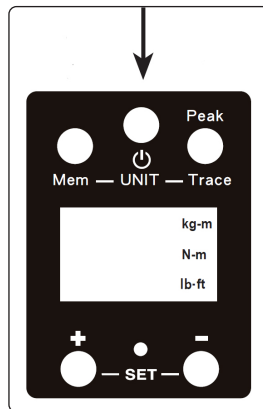

fig.2
- 4.2.1. Press the Power button once (fig.2) to turn the digital torque adaptor on. The display will initially show "trACE" or "PtoP". After 2 seconds the LCD panel will show "0.0".